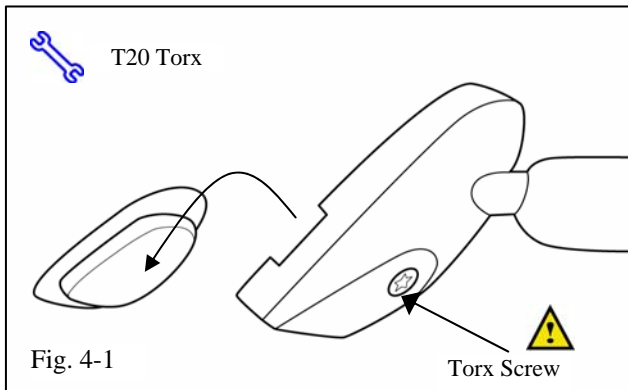

Fig. 4-1
- (a) Slide the EC mirror onto the mounting button on windshield. (Fig. 4-1)